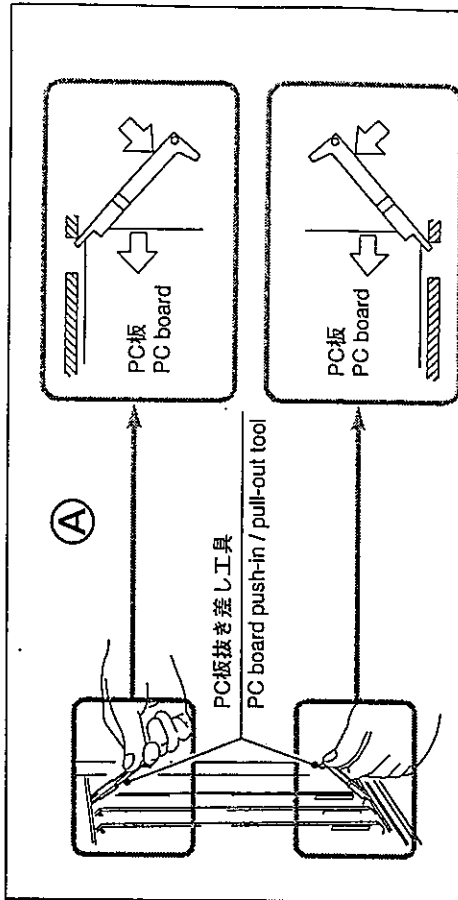

図15 Fig. 15
- (4) PC板抜き差し工具2個のツメを、PC板スロット手前の角穴に引っ掛け、図のようにPC板を確実に押し込む。(図15 ㊻)
- (4) Put 2 claws of PC board push-in / pull-out tool on square hole in front of PC board slot. And securely push in PC board as illustrated. (㊻ in Fig. 15)